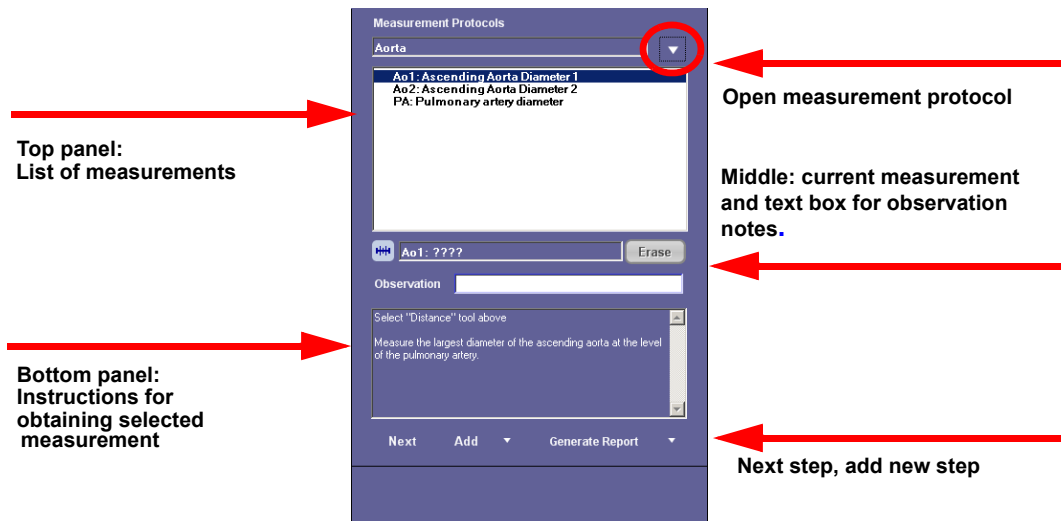

Figure 13-1: The Measurement Protocols Tool Panel
Click the Measurement icon. The Measurement Protocols tool is displayed in the Tool Panel, as shown in Figure 13-1.
Click the down-arrow located in the upper-right corner of the Tool Panel (circled in Figure 13-1). This opens the Measurement Protocols dialog.
The selected protocol is displayed in the Tool Panel, as shown in Figure 13-1.
1. Click on the first item, **Ascending Aorta Diameter 1**. The instructions for obtaining this measurement are displayed in the bottom panel, as shown in Figure 13-1.
2. Click the down-arrow located in the upper-right corner of the Tool Panel (circled in Figure 13-1 on page 13-2). This opens the Measurement Protocols dialog.